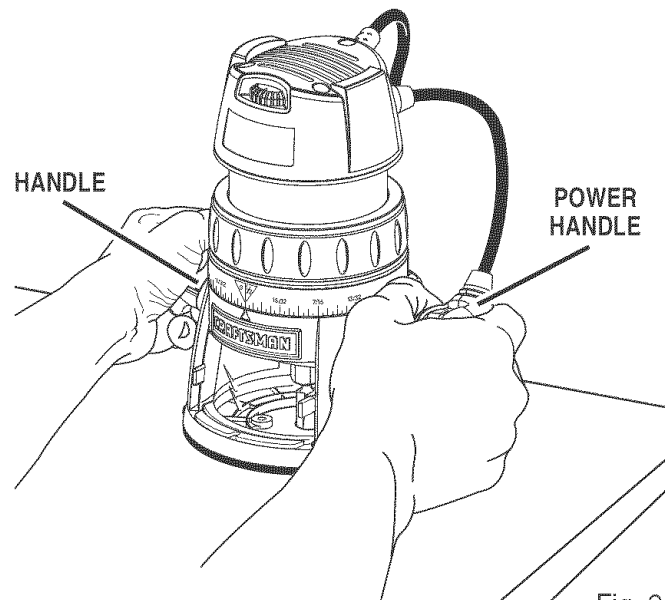

Fig. 9
- Grasp handles using both hands. *See Figure 9.*